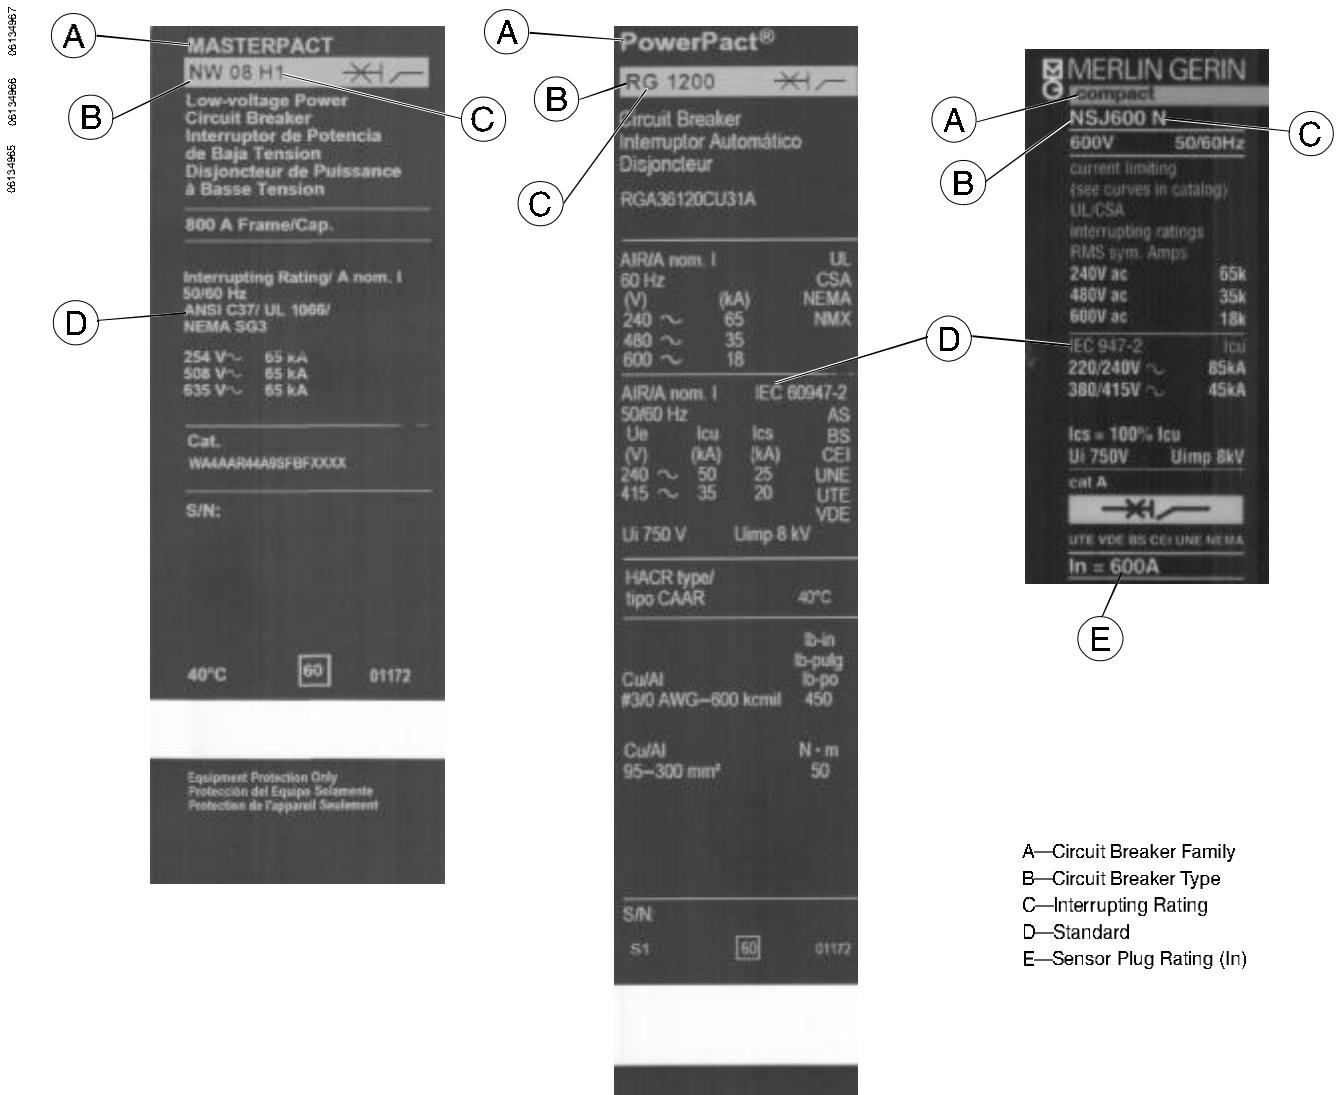

Figure 14: Circuit Breaker Label Examples for Configure Circuit Breaker Parameters Screen
1. Press touch key beside each parameter name to select its value. Refer to Figures 14 and 15 for examples of parameter value locations on circuit breaker labels and trip units. Parameter input sequence is controlled by Full-function Test Kit according to the following hierarchy: